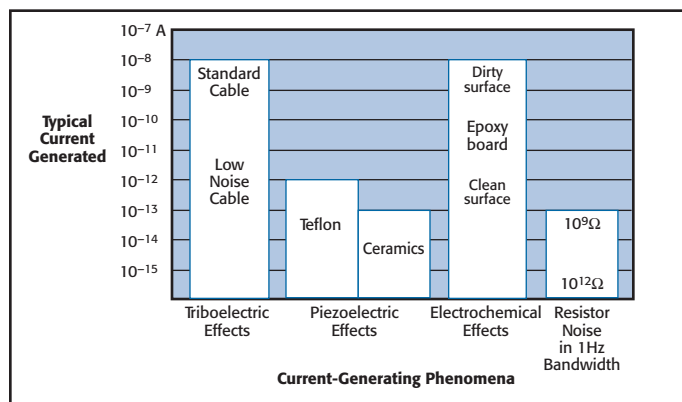

Figure 7
**Figure 7** summarizes approximate magnitudes of the various currents.